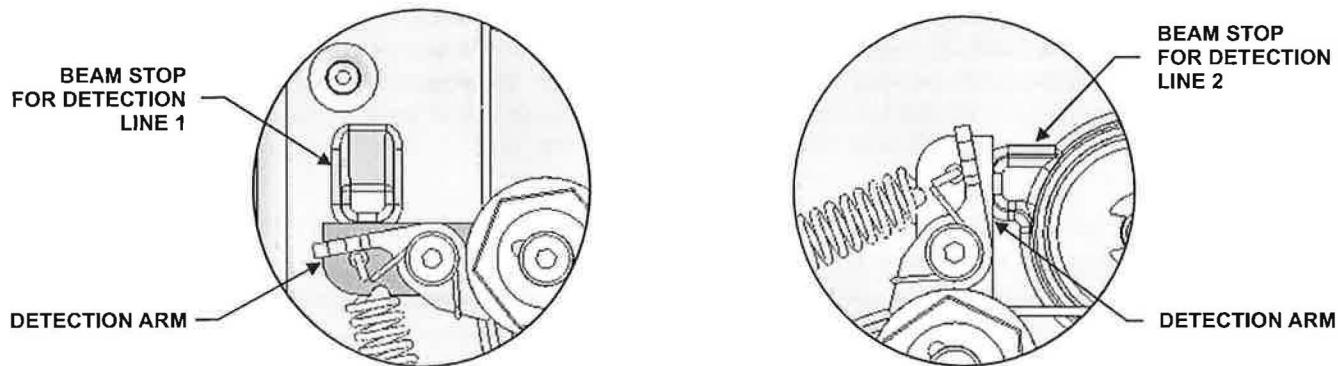

Figure 5-9. Detection Beam Stops
3. Using a 7/8-inch socket (or equivalent), carefully ratchet up the slack in the control cable lines (see Figure 5-9). Tighten the line until the beam reaches the stop. **Do not overtighten.**